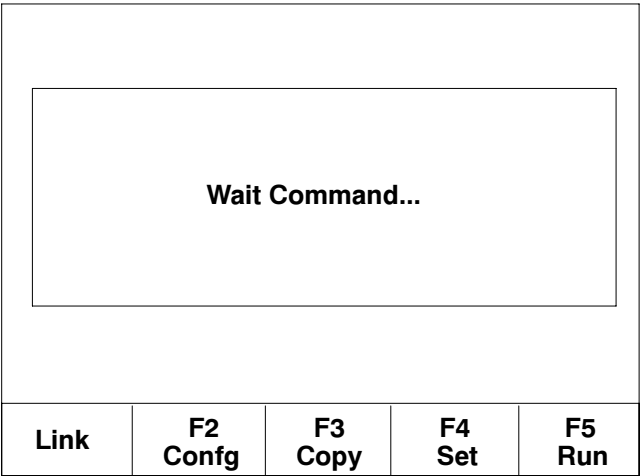

Figure 29 System Menu
The System Menu allows the operator to view and adjust communication settings or clear the annunciator memory. Level 1 access is required in order to display the system menu, which is shown in Figure 29.
2. Close the box and reconnect power to the annunciator. The system menu shown in Figure 29 appears after the startup screens.
1. From the System Menu shown in Figure 29, press the F2 Config button to access the configuration table shown in Figure 30.
From the System Menu screen shown in Figure 29, touch RUN to operate the annunciator to check the new settings, if desired. The Summary Screen appears as described in Section 3.1.
From the System Menu screen shown in Figure 29, touch F4 Set. Then touch Clear Data Ram.